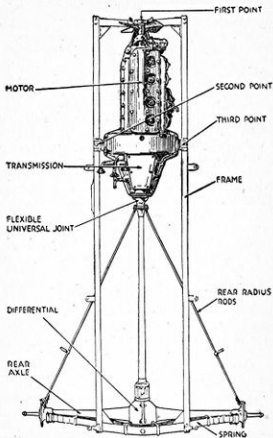

Figure 39.—Power Plant, Transmission System and Frame, Showing Three-Point Suspension.
*Frame.*—The frame of the Ford car with the power plant and rear axle mounting is shown in Figure 39. The frame itself is a rectangular assembly of pressed steel channels. The frame supports the power plant and body and is itself supported on the springs and the front and rear axles.
The Ford principle of three-point suspension is well illustrated by the view in Figure 39. The power plant is supported in front and at its two sides on the frame. The rear axle is supported toward the front by the rear end of the power plant and at its outer ends by the triangular radius rods. The front axle likewise forms a triangular system as already explained.